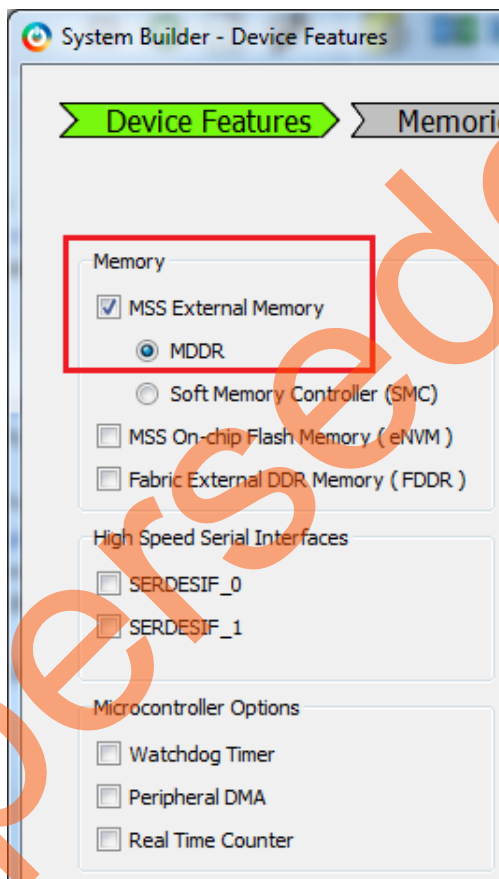

Figure 8 • System Builder - Device Features Tab
1. Go to the **System Builder - Device Features** tab and check the **MDDR** check box. Leave the rest of the check boxes unchecked. Figure 8 shows the **System Builder - Device Features** tab.